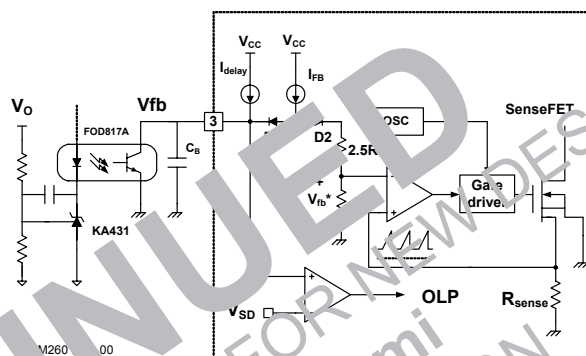

Figure 17. Pulse Width Modulation (PWM) Circuit
2. Feedback Control: FSFM260/261/300 employs current-mode control, as shown in Figure 17. An optocoupler (such as the FOD817A) and shunt regulator (such as the KA431) are typically used to implement the feedback network. Comparing the feedback voltage with the voltage across the R_{SENSE} resistor makes it possible to control the switching duty cycle. When the reference pin voltage of the shunt regulator exceeds the internal reference voltage of 2.5V, the optocoupler LED current increases, pulling down the feedback voltage and reducing the duty cycle. This typically occurs when the input voltage is increased or the output load is decreased.
2.1 Pulse-by-Pulse Current Limit: Because current-mode control is employed, the peak current through the SenseFET is determined by the inverting input of the PWM comparator (V_{FB*}), as shown in Figure 17. When the current through the opto-transistor is zero and the current limit pin (#4) is left floating, the feedback current source (I_{FB}) of 0.9mA flows only through the internal resistor (R+2.5R=2.8k). In this case, the cathode voltage of diode D2 and the peak drain current have maximum